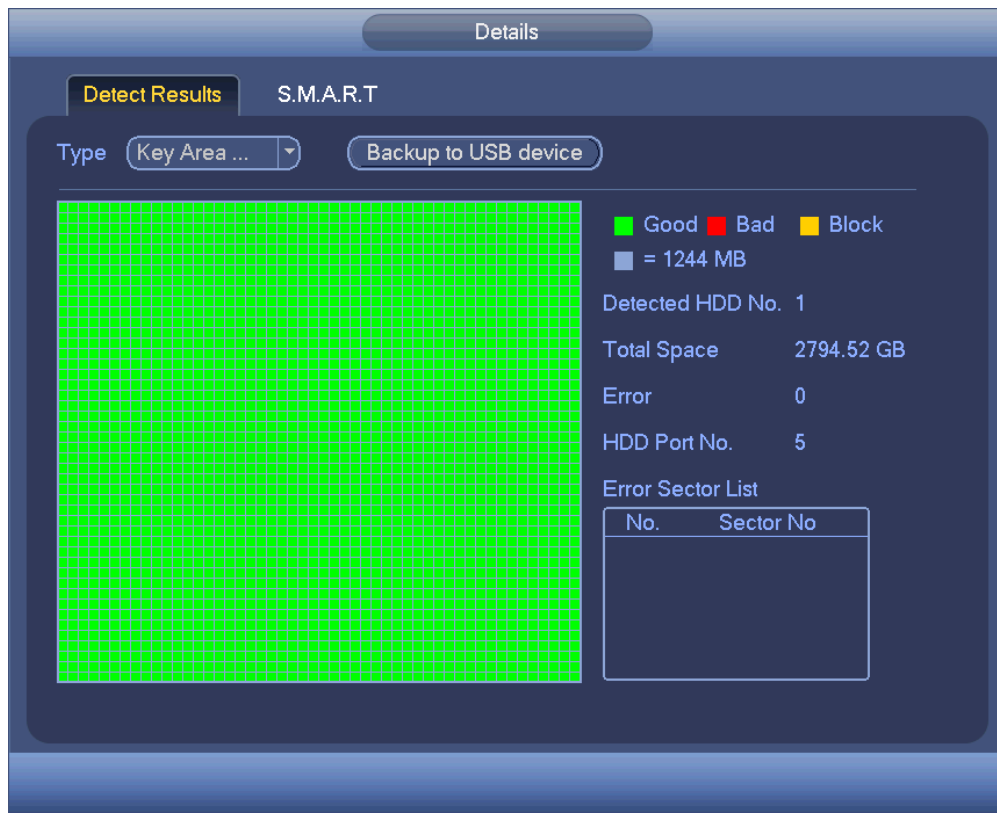

Figure 4-201
Step 2 Click View, you can see the detailed information such as detect result, backup and S.M.A.R.T. See Figure 4-201 and Figure 4-202 .